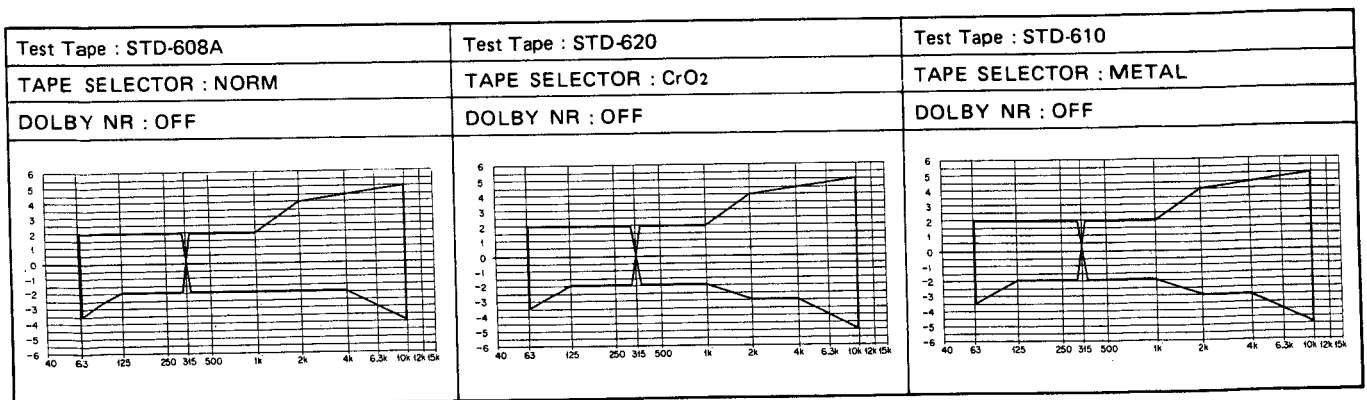

Fig. 6-10 Copy mode allowable recording and playback frequency response zone
5.	Load the STD-620 test tape into deck II, and repeat steps 2 and 3 to check that the allowable zone shown in Fig. 6-10 is satisfied.
7.	Load the STD-610 test tape into deck II, and repeat steps 2 and 3 to check that the allowable zone shown in Fig. 6-10 is satisfied.